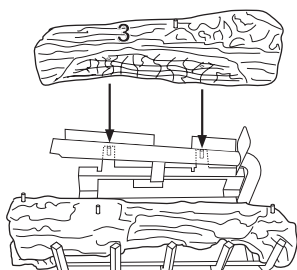

Figure 36 - Installing Log #3, Model CD42M-LS
3. Place log #3 (rear log) onto pins on rear of grate (see Figure 36).